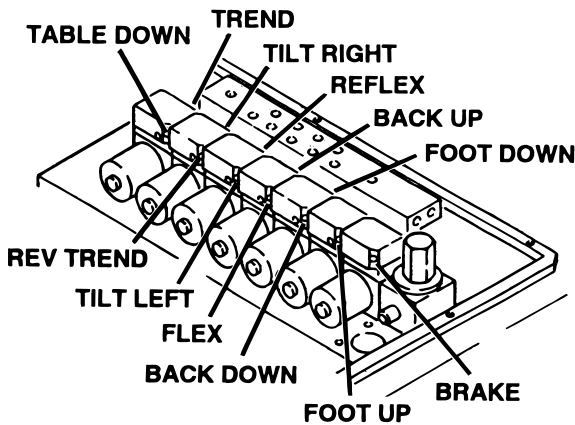

Figure 1-21.
One speed control adjusts one direction of a particular function and the opposite speed control adjusts the other direction. They are adjustable by using a small straight blade screwdriver and turning the adjustment screw clockwise to decrease the speed and counterclockwise to increase the speed. Refer to figure 1-21.
1. Attach the pressure gauge onto the main oil galley as shown in figure 1-21.